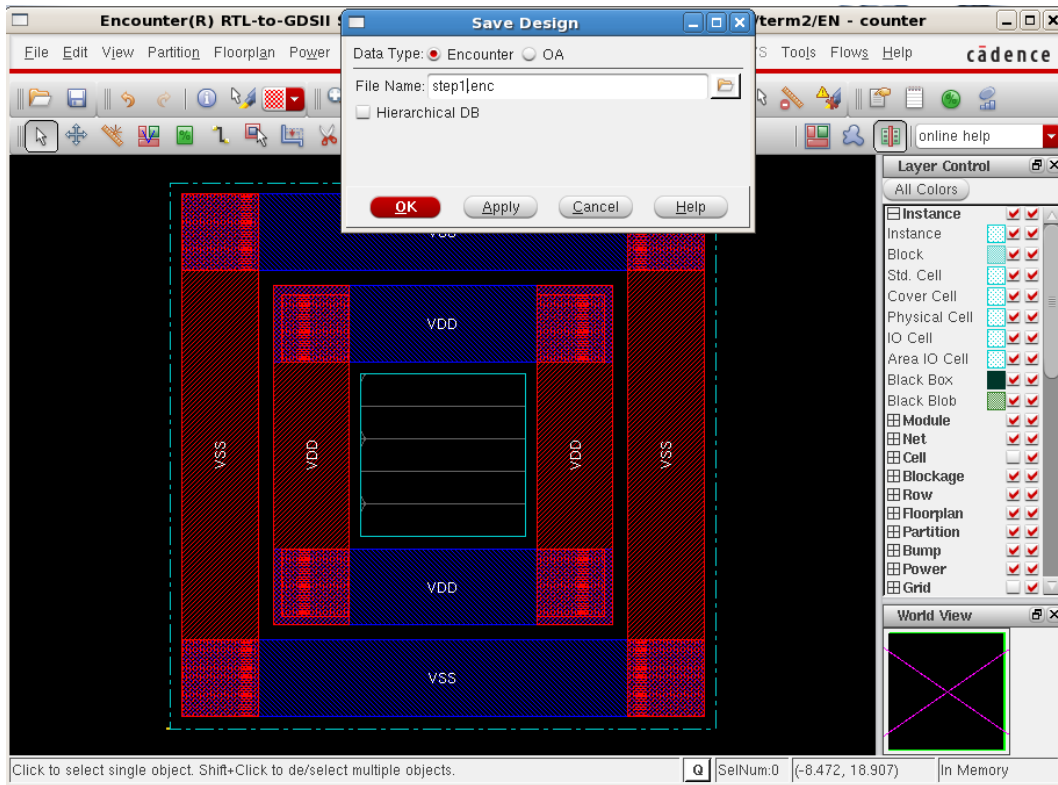

Figure Lab8-6 Save Design
- Upon completion of Step 6, the layout should be the same as shown in Figure Lab8-6. It is time to save the work thus far.